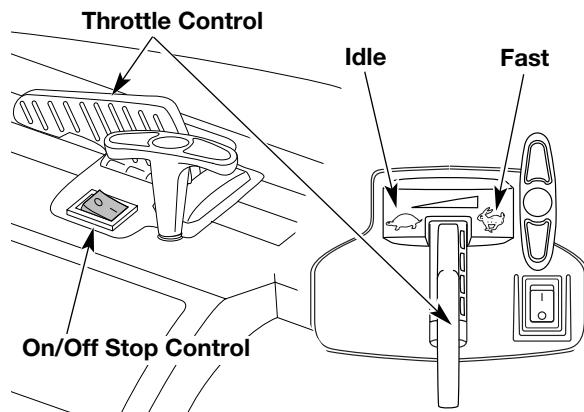
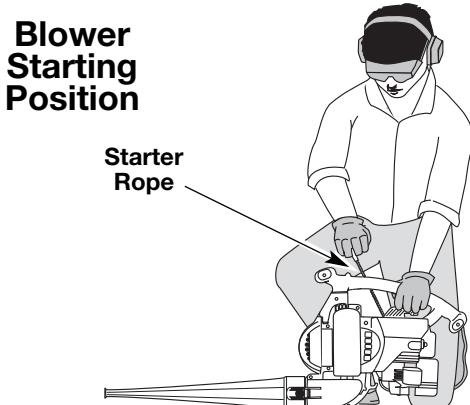
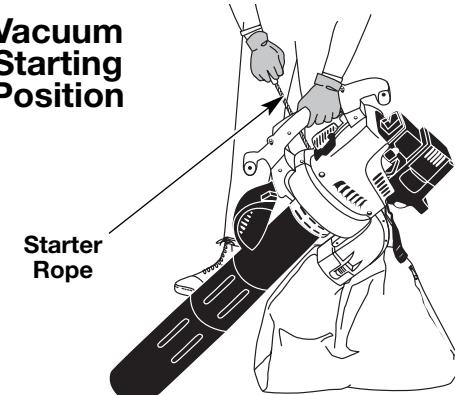

Fig. 10
Fig. 12
Fig. 13
WARNING: Avoid accidental starting. Make sure you are in the starting position when pulling the starter rope (Fig. 12 and 13). To avoid serious injury, the operator and unit must be in a stable position while starting. Do not set unit on any surface except a clean, hard area while starting. Debris such as gravel, sand, dust and grass could be picked up by the air intake and thrown out by the discharge opening. This could damage the unit, property, or cause serious injury to bystanders or the operator.
3. Place the unit in the starting position (Fig. 12 as a blower, Fig. 13 as a vacuum). **Move the throttle control to the idle position** (Idle) (Fig. 10). This is especially important during cold starting.